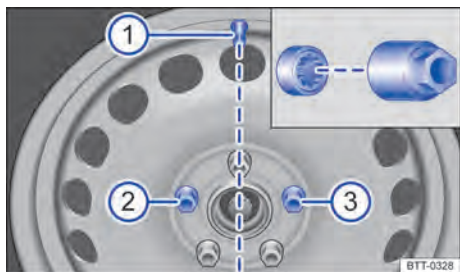

Fig. 214 Changing a wheel: tyre valve ① and locations of the anti-theft wheel bolt ② or ③.
2. Insert the adapter into the anti-theft wheel bolt as far as it will go → Fig. 214.
3. Insert the box spanner into the adapter as far as it will go → Fig. 214.
On wheels with a wheel cover, the anti-theft wheel bolt must be screwed in at position → Fig. 214 ② or ③ according to the position of the tyre valve ①. Otherwise, it will not be possible to fit the wheel cover.